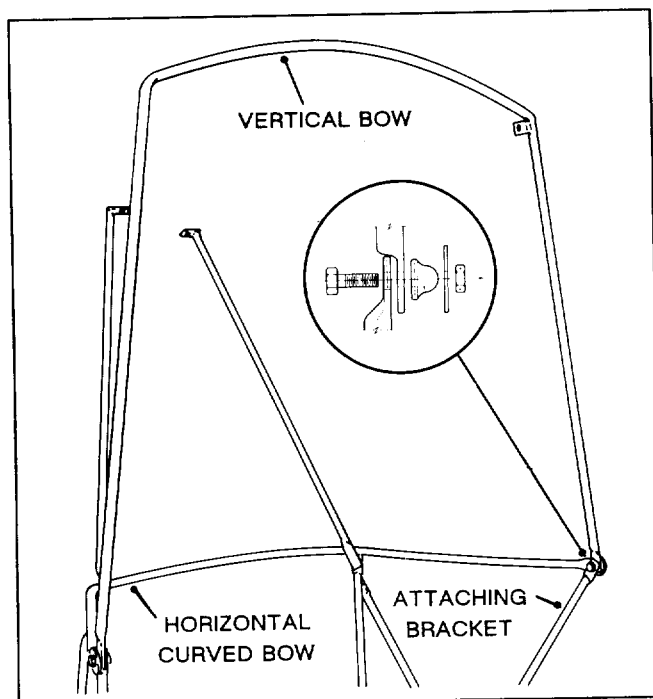

Figure 6
8. Mount each side of vertical bow (Fig.6) to attaching brackets and rear of horizontal curved bow with a 1/4-20 x 3/4" lg. capscrew, flatwasher and locknut. Capscrew head to be positioned inside of cab and flatwasher next to locknut. Vertical bow to be positioned between attaching bracket and horizontal curved bow. Tighten capscrews so vertical bow is vertical and at 90 degrees to the plane of the horizontal bow.